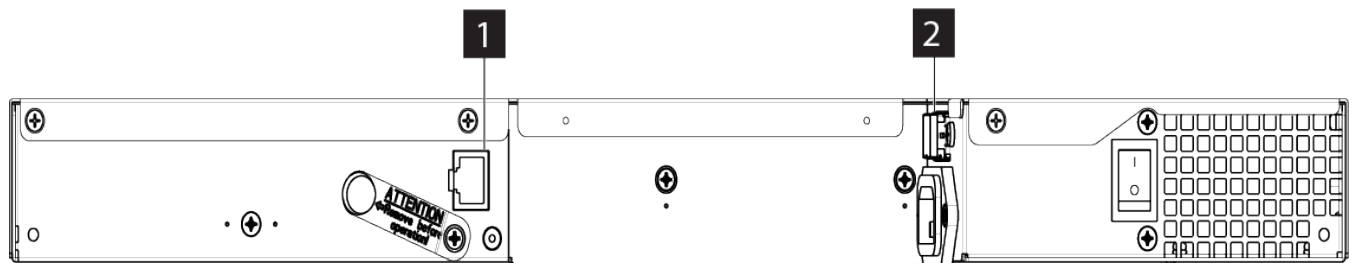

Figure 19. Interface cable connection
1. Attach an Ethernet cable to the Ethernet port (**1** in Figure 19 on page 25.)
2. Attach the host end of the SAS cable to the drive's SAS connector (2 in Figure 19 on page 25). For more information about the type of SAS connector that is required for attachment to the drive, see "Rear panel" on page 3.